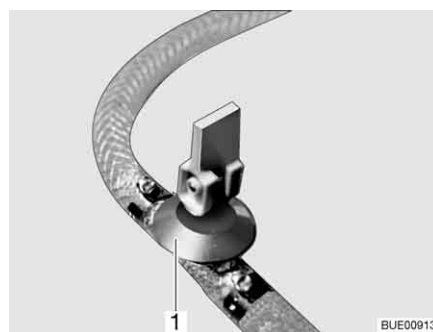
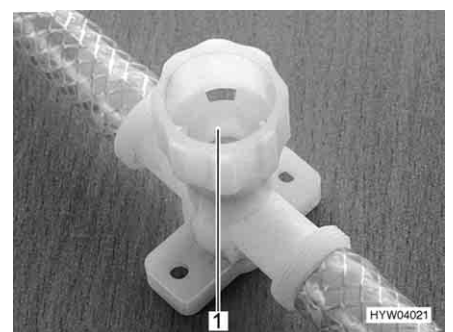

Fig. 134 Drain cock (with rocking lever)
Fig. 135 Drain cock (with twist cap)
- Close all drain cocks. To do this, position the drain cock's rocking lever (Fig. 134,1) horizontally or turn the drain cock's cap (Fig. 135,1) in a clockwise direction.